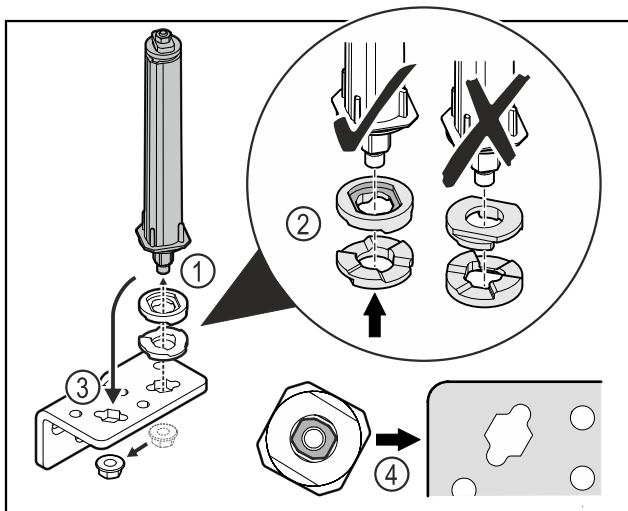

Fig. 27
- Loosen the nut and remove the door closing system Fig. 27 (1).
- Ensure that the height adjustment discs are correctly aligned Fig. 27 (2).
- Move the door closing system to the hinge angle and secure it with the nut Fig. 27 (3).
- When inserting, ensure that the door closing system is correctly aligned Fig. 27 (4).